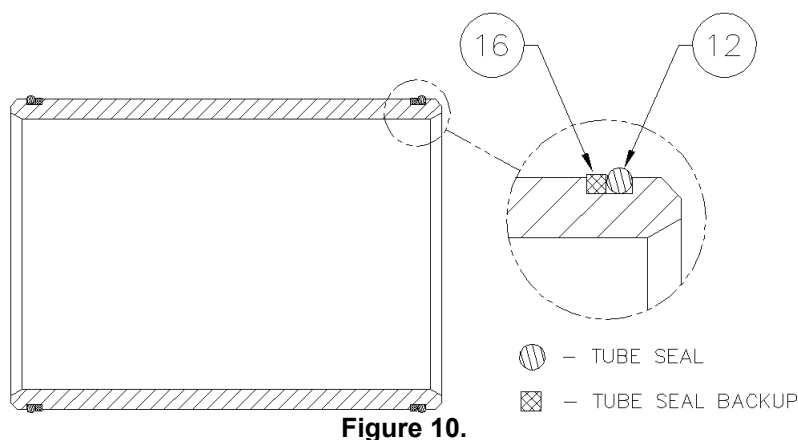
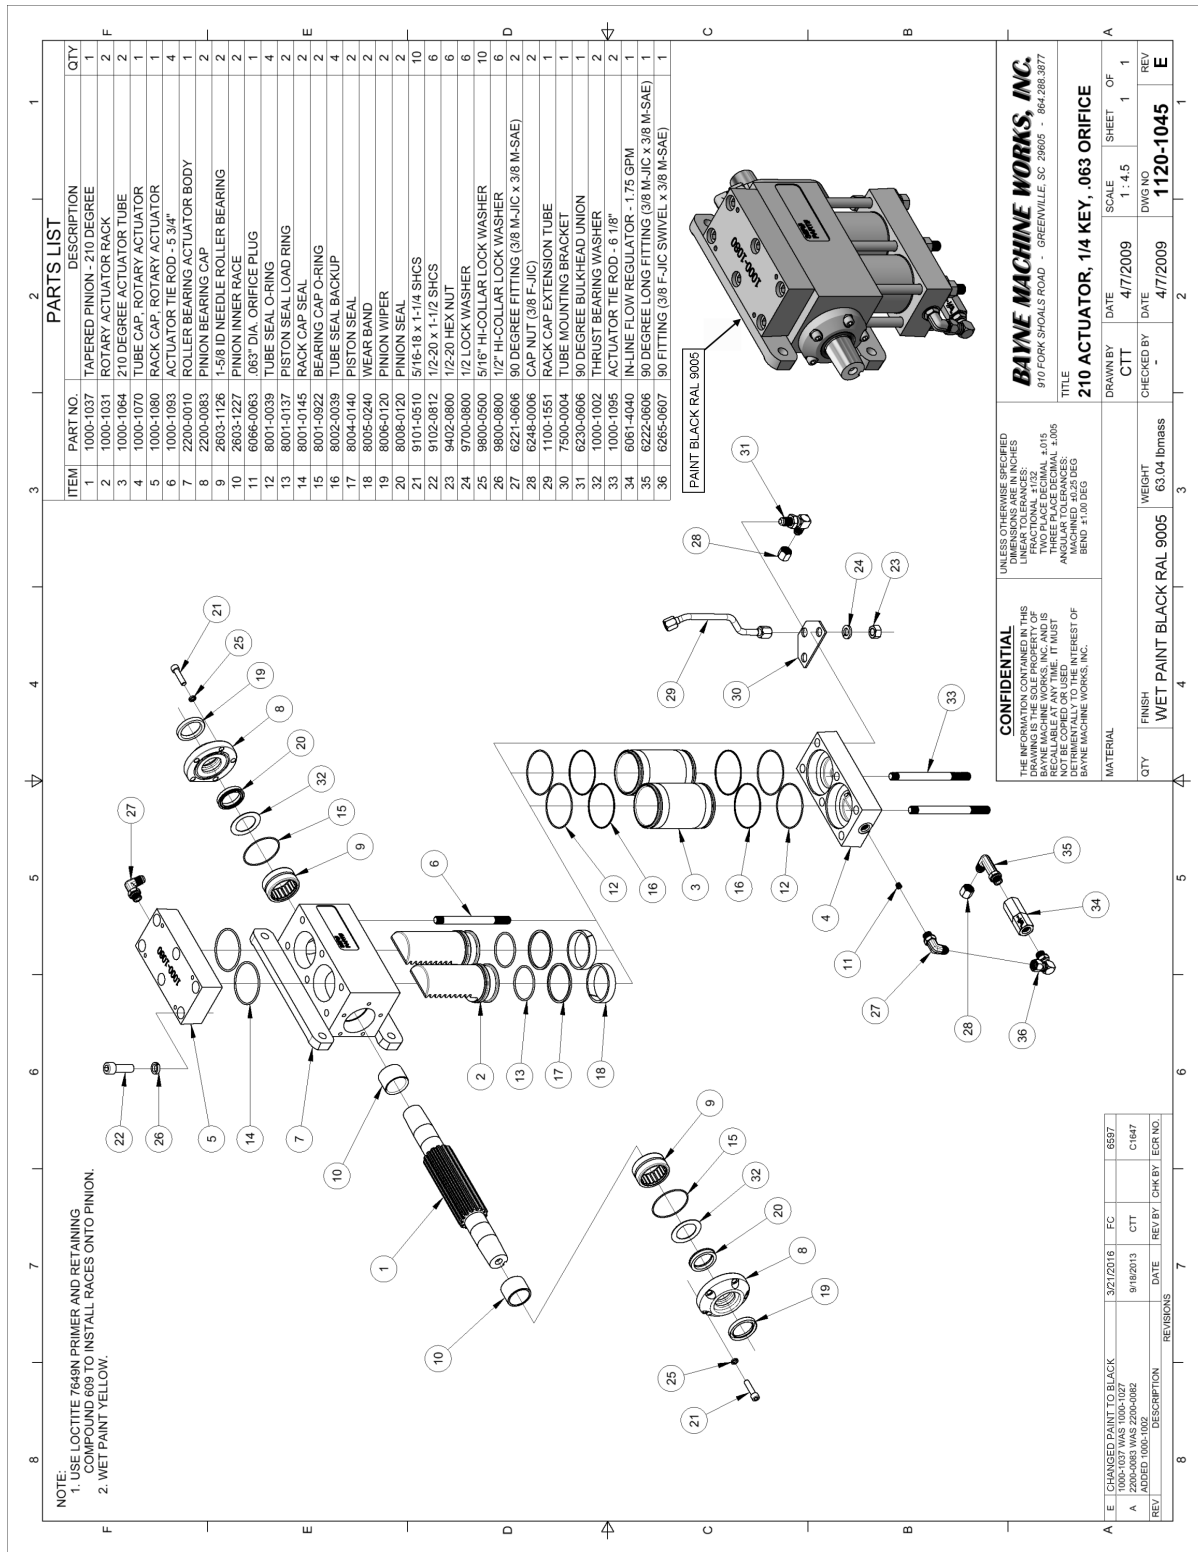

Figure 10.
Figure 21.
2. Install the tube seal (12) (Figure 10) and "square" tube seal backup (16) on each end of the actuator tubes (3) (Figure 21). Be sure that the "square" tube seal backup ring is toward the inside of the tubes at both ends as shown. Press all rings firmly into the grooves. Repeat this procedure for the other tube.
7. Coat one end of the actuator tubes (3) (Figure 21) around the seal area with STP Oil Treatment as shown in Figure 15. Using a rubber mallet, drive the coated end of the tube onto the exposed rack until the tube end seats in the actuator body, making sure that the seals remain in place as the tube enters the counter-bore. Repeat this procedure for the other side.
8. Install the four tie rod studs (6) and two tie rod studs (33) (Figure 21) by screwing the short threaded end into the actuator body. Hand tighten only at this time (the torque needed will be applied later in the procedure).
9. Place the tube cap (4) (Figure 21) on the table. Coat the sides of the two bores in the tube cap with STP Oil Treatment. Install the cap over the tubes and rod studs with the oil port positioned to the left as shown in Figure 21. Using a rubber mallet, tap the tube cap over the tubes until the tubes seat in the cap, making sure that the seals remain in place.
10. Place the tube mounting bracket (30) (Figure 21) over the two end rod studs opposite the oil port in the tube cap as shown in Figure 21.
11. Install the hex nuts (23) (Figure 21) and lock washers (24) on the tie rod studs. Torque the nuts to 50 ft-lb. in the sequence shown in Figure 16.
12. Place the rack cap (5) (Figure 21) bore side up on the table and coat the edge of each bore with STP Oil Treatment. Install the rack cap seals (14) (Figure 17) in the rack cap.
13. Reposition the actuator on the table mounting flanges down, and the lower tubes facing away from the assembler. Rotate the pinion shaft to allow 1" of the rack to protrude from the top of the actuator body. Install the rack cap with the oil port positioned to the left hand side of the actuator opposite the bottom oil port located in the tube cap as shown in Figure 21. Attach the rack cap to the actuator body using the socket head bolts (22) (Figure 21) and lock washers (26). Torque the bolts to 90 ft-lb. in the sequence shown in Figure 18.
15. Re-center the actuator pinion in the actuator body by tapping on one end of the shaft with a rubber mallet. Install the roller bearing (9) (Figure 21), over the pinion shaft and inner race, and into the actuator body. Repeat this procedure for the other bearing.
16. Thoroughly clean the bearing caps (8) (Figure 21) with a mild solvent and lubricate all seal grooves with STP oil treatment. Place the bearing caps (8) on the table (mounting surface down) and install the wiper ring (19) in the outside groove using a rubber mallet or small press. **(Avoid using tools that may damage seals or scratch bearing cap or bearing surfaces.)** Turn the bearing cap (8) over. Collapse the pinion seal (20) and carefully work it into the groove. Use fingers to carefully press the seal completely into the groove as shown in Figure 19. **Be careful not to score or scratch the sealing surface during the installation.** Install the bearing cap seal (15) and thrust washer (32) into their respective grooves on the bearing cap mounting surface as shown in Figure 19.
20. Install the 90° fitting (27) (Figure 21) into the oil port on the side of the rack cap (5). Hand tighten only at this time.
21. Install the 90° bulk-head fitting (31) (Figure 21) up through the hole in the tube mounting bracket (30) bolted to the tube cap as shown in Figure 21. The 90° end must be pointing back toward the mounting flanges on the actuator body. Hand tighten only at this time.
22. Install the rack cap extension tube assembly (29) (Figure 21) between the fitting in the rack cap and the bulk-head in the tube mounting bracket as shown in Figure 21. Tighten all connections.
23. Install the orifice plug (11) (Figure 21) into the oil port on the side of the tube cap (4), and install the 90° fitting (27) into the oil port over the orifice plug as shown in Figure 21. Install the flow regulator (34) and necessary fittings (35) and (36) as shown and tighten.
24. Install the cap nuts (28) (Figure 21) onto the open fittings to prevent contamination of the unit until the hoses are installed.